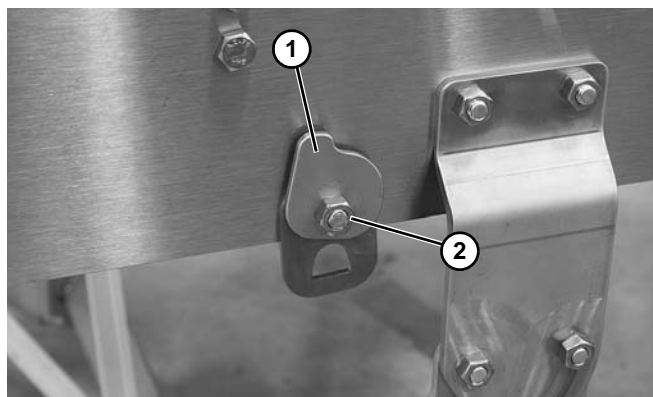

Figure 29
3. Install return clip (**Figure 29, item 1**) and loosely secure with nut (**Figure 29, item 2**).